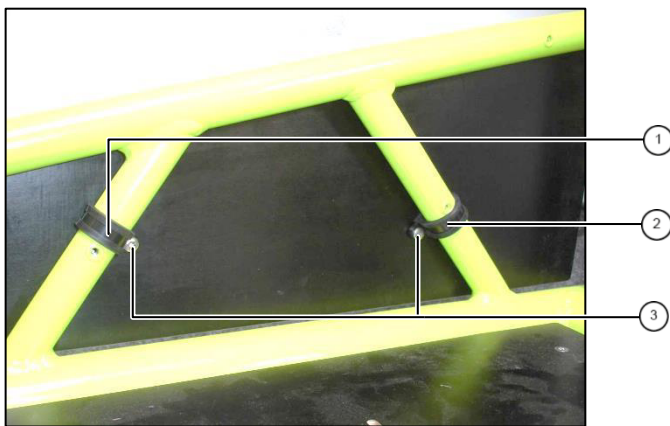

Fig. 1: right side wall
1. Place clamps at frame according to fig. 1. Schellen gemäß Abb. 1 am Rahmen platzieren. The front clamps ① sit above the rivet nuts and point to the rear side, the rear clamps ② sit below the rivet nuts and point to the front side.
2. Place right side wall with the rubber pads facing to the left side and turn bolts ③ carefully into the side wall. Do not tighten the bolts completely.
3. Adjust side walls and tighten bolts ③. **Tightening torque 2 up to 3 Nm.**